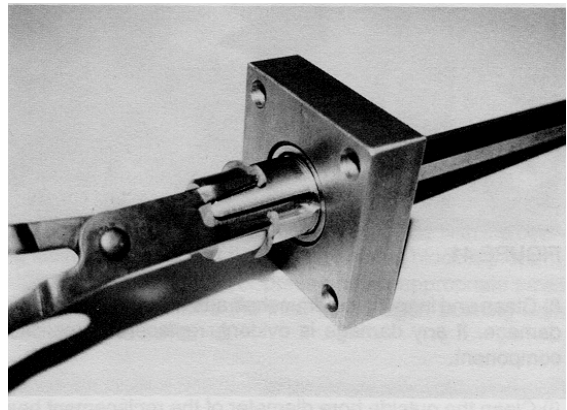

FIGURE 39
6) Position the driveshaft assembly on a suitable work surface. Use the snap ring pliers to remove the snap ring. FIGURE 39. Remove the spacer.